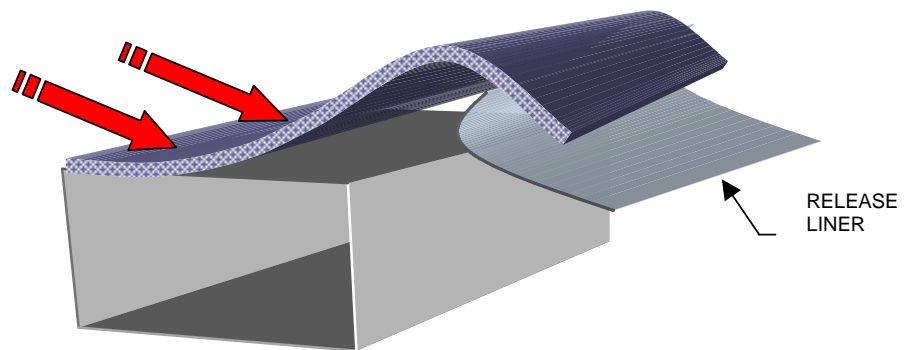

Fig 1
- ❑ Peel off only a small section to start off with (150 mm). Align duct edge with the insulation sheet edge, and gently lower to the duct. Pad firmly. Starting from the fixed edge, move to the other edge by lowering the insulation to the duct progressively whilst padding insulation at the same time. Peel off enough paper to cover one side at a time only. Ensure air is expelled. **DO NOT TRY TO LOWER ENTIRE SHEET TO ONE SIDE OF THE DUCT AT ONCE. THIS WILL LEAD TO TRAPPED AIR POCKETS. (see Fig 1)**